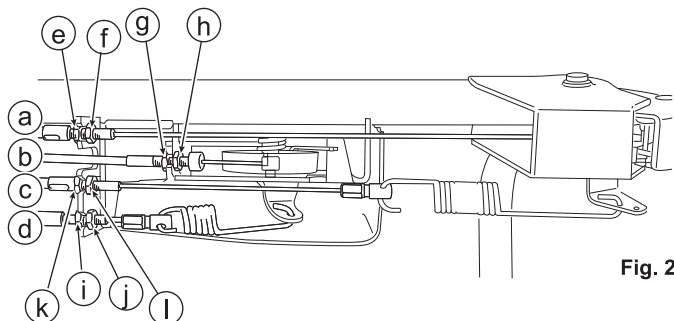

Fig. 23
8.5.1 Throttle Lever (See Figs. 23 and 24)
8.5.2 Blade Lever (See Figs. 23 and 25)
8.5.3 Drive Clutch Lever (See Figs. 23 and 26)
8.5.4 Gearshift Lever (See Figs. 23 and 27)